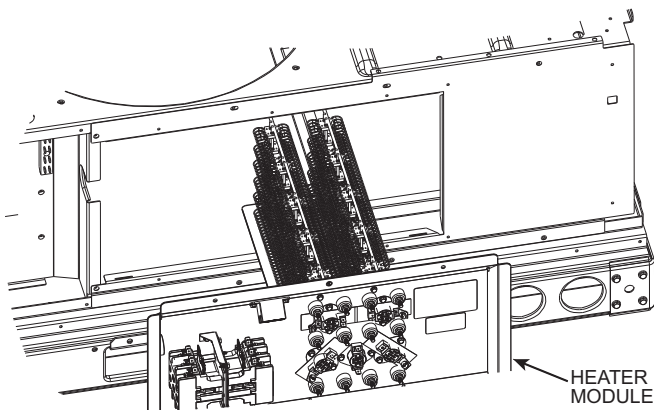

Fig. 10 — Typical Electric Heat Installation
1. Identify heater cover to remove. See Fig. 10. Remove heater cover and save cover and screws.